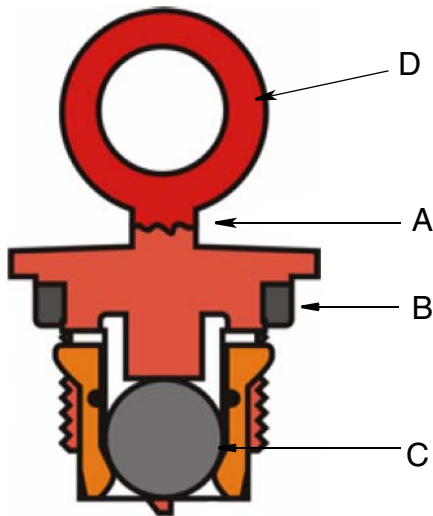

FIG. 8
For the following instructions, unless otherwise instructed, refer to FIG. 8.
5. Shake the lubricator and listen for the pellet rattle inside the canister to insure that the gas generating pellet (C) (FIG. 8) has fallen from the activator into the bladder. This starts the chemical dispensing reaction that builds up pressure (up to 4 bar / 58 psi) and causes the piston to move forward.